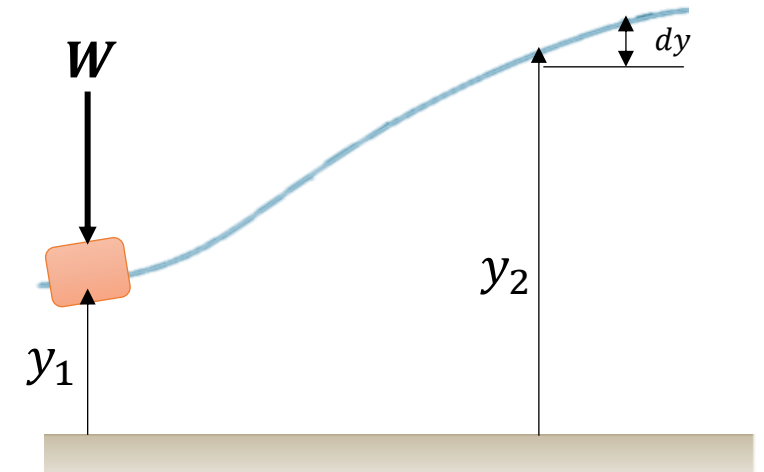

Figure 3. Work of force of gravity
- Consider a body of weight  $W$ , which moves up along the path  $s$  shown in Fig. 3 from position  $y_1$  to position  $y_2$ .